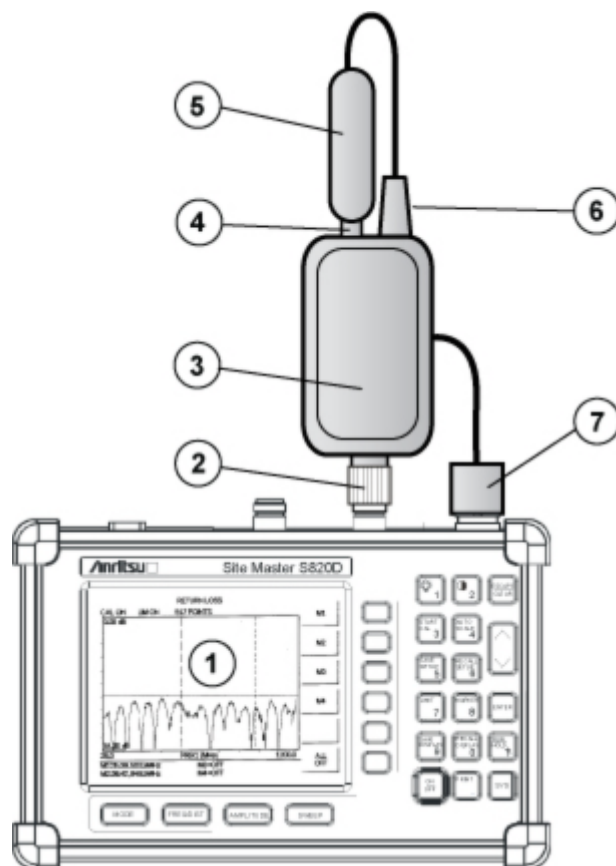

Figure 2-7. Two-Port Cable Loss General Connections
5. Connect the cable of the CW Source Module to the **CW Source Module Interface** port of the S8X0D as shown in Figure 2-7 below.
Table 2-1. Callout Index for Figure 2-7, “Two-Port Cable Loss General Connections”
Table 2-1. Callout Index for Figure 2-7, "Two-Port Cable Loss General Connections"